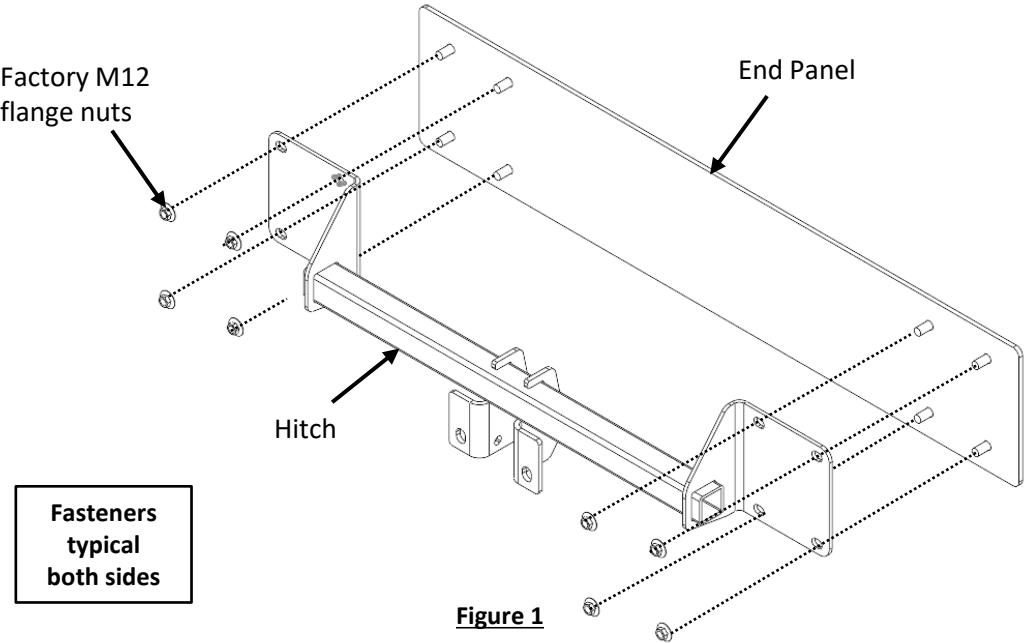

Figure 1
- Using a 10 mm socket, remove (8) bolts from bottom of the fascia.
- Using a flat head screwdriver, remove (3) rivets from the outside of wheel well liner and (1) rivet from inside of wheel well liner, per side. Using a 10 mm socket remove (1) bolt inside of wheel well liner, per side.
- Open tailgate. Using a T30 torxbit, remove (1) screw from rear trim panel at the center. Remove the plastic trim.
- Remove plastic cover from both driver and passenger side panels. Using a plastic trim tool, remove bolt cover from cargo tie hook. Using a 12 mm socket. remove (1) bolt from that hook, per side.
- Remove taillights** – Remove cover from passenger side panel. Using 8 mm socket with extension remove (3) hex nuts that hold the taillight from behind of the panel, per side. Remove taillights by disconnecting the wiring harness.
- Remove bumper beam** – Use 18 mm socket remove (4) M12 flange nuts from bolts of bumper beam on end panel, per side. Remove bumper beam and return to vehicle owner. *Tow eye will be inoperative after bumper beam removal. Please use chain ring on the hitch as alternative.
- Install hitch** – Raise the hitch into position aligning holes to the studs on the end panel. Loosely install (8) factory M12 flange nuts to the hitch, see **Figure 1**.
3. Install hitch – Raise the hitch into position aligning holes to the studs on the end panel. Loosely install (8) factory M12 flange nuts to the hitch, see **Figure 1**.